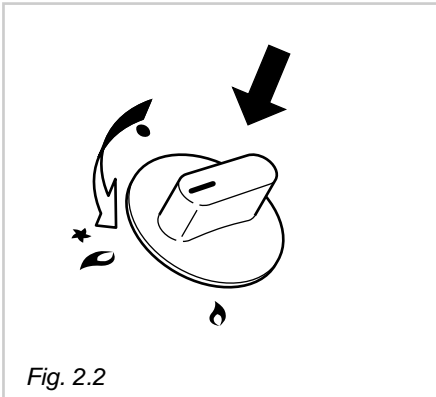

Fig. 2.2
- 1 – Turn the knob fig. 2.2 in anti-clockwise direction up to the maximum aperture, push in and hold the knob; this will light the gas. If there is no mains electrical supply, bring a lighted match close to the burner.